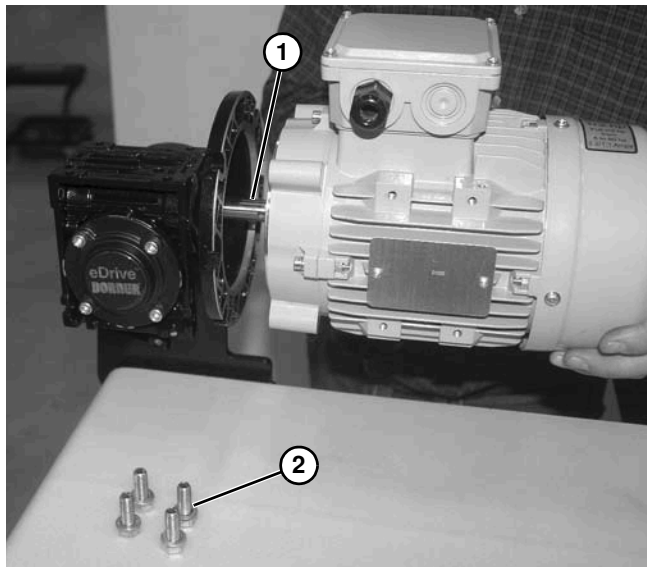

Figure 25
2. Apply anti-seize to motor shaft before assembling to gearbox. With key (**Figure 25, item 1**) in keyway, slide motor and gear reducer together. Install screws (**Figure 25, item 2**) and tighten.